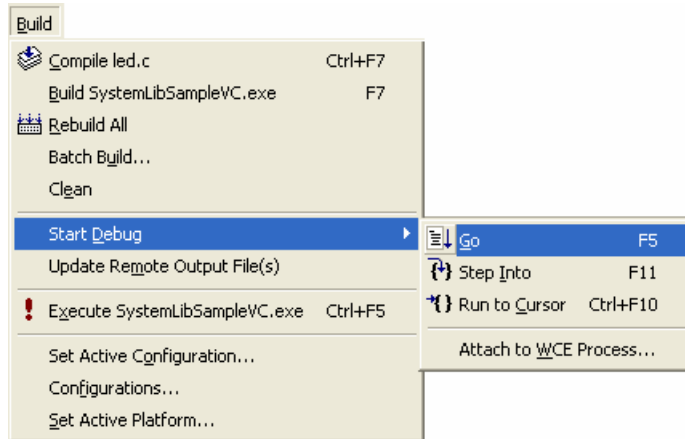

Figure 7.22
3. Similar to ordinary debugging operations with an actual DT-X7, the **Device Emulator** allows break point setting (circled in red in Figure 7.22) in the source code and step-by-step debugging.